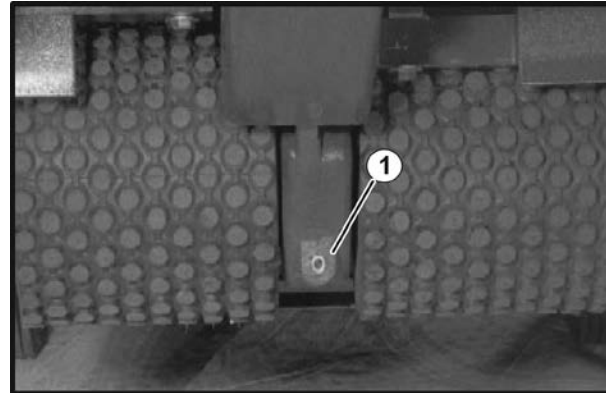

FIGURE 1
1. Remove drain plug from front of gear case and drain gear case. Remove gear case cover. (Figure 1)